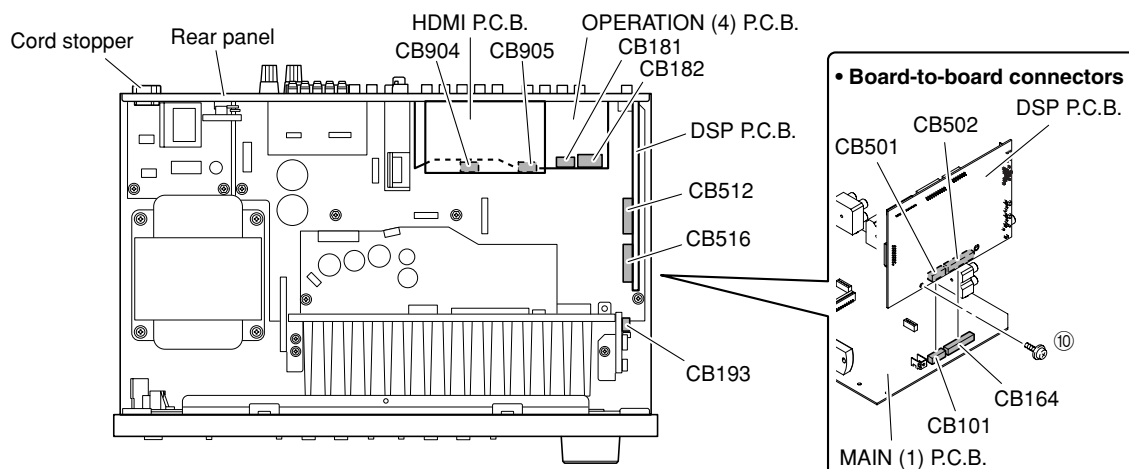

Fig. 2
- Remove CB904 and CB905. (Fig. 2)
- Remove HDMI P.C.B.. (Fig. 2)
4. Removal of OPERATION (4) P.C.B.
- Remove CB193 and CB182. (Fig. 2)
- Remove OPERATION (4) P.C.B.. (Fig. 2)
- Remove cord stopper. (Fig. 2)
- Remove rear panel. (Fig. 2)
- Remove screw (⑩). (Fig. 2)
- Remove CB512 and CB516. (Fig. 2)
- Remove the DSP P.C.B. which is connected directly to the MAIN (1) P.C.B. with board-to-board connectors. (Fig. 2)